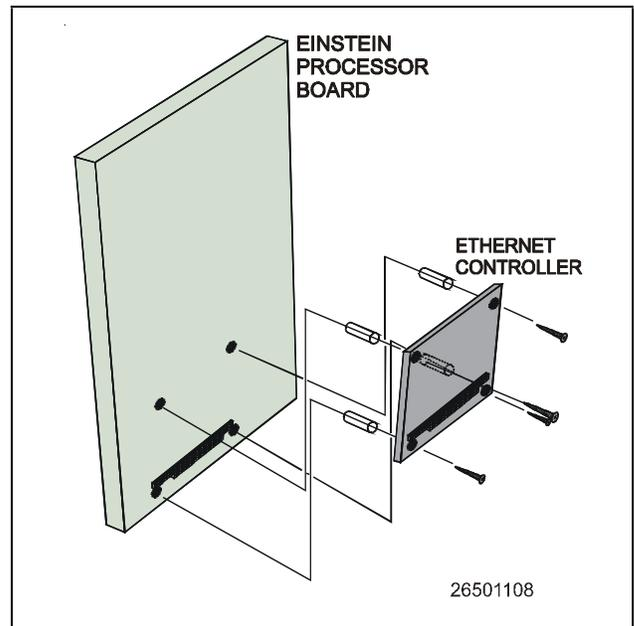

Figure 1-1 - Mounting Detail
1. Mount the NetCom Card on the Einstein circuit board by carefully aligning and pressing the pins down on the PC/104 jack (see **Figure 1-1**). Install the plastic stand-offs in the appropriate holes on the circuit board and fasten them to the NetCom Card.